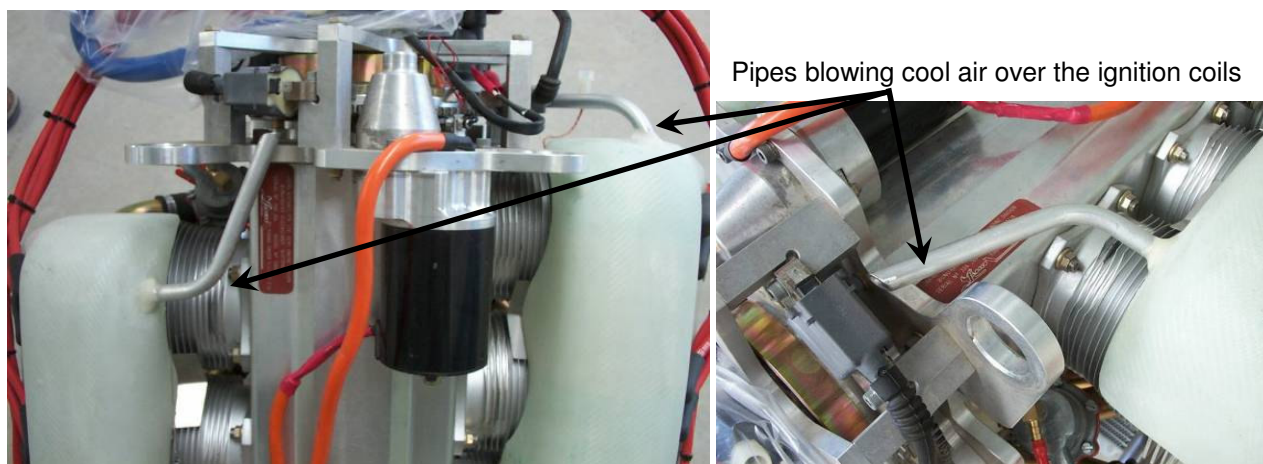

Figure 51. Coil Cooling Detail
- Tubes of approximately 12mm diameter are required to provide cooling air to the ignition coils - Figure 51.